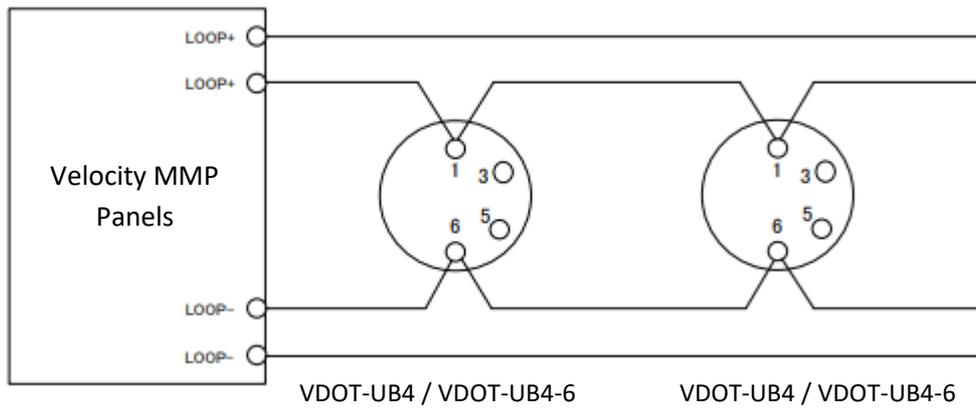

Figure 9: Wiring diagram for VDOT-UB4 and VDOT-UB4-6
1. Pass the field wiring through the rear center cable opening in the mounting base. Install the base to the electrical box with screws via the base mounting holes. Connect the field wiring to the base terminals, as detailed in Figure 9,. Do not use looped wire under terminals (See Figure 10).